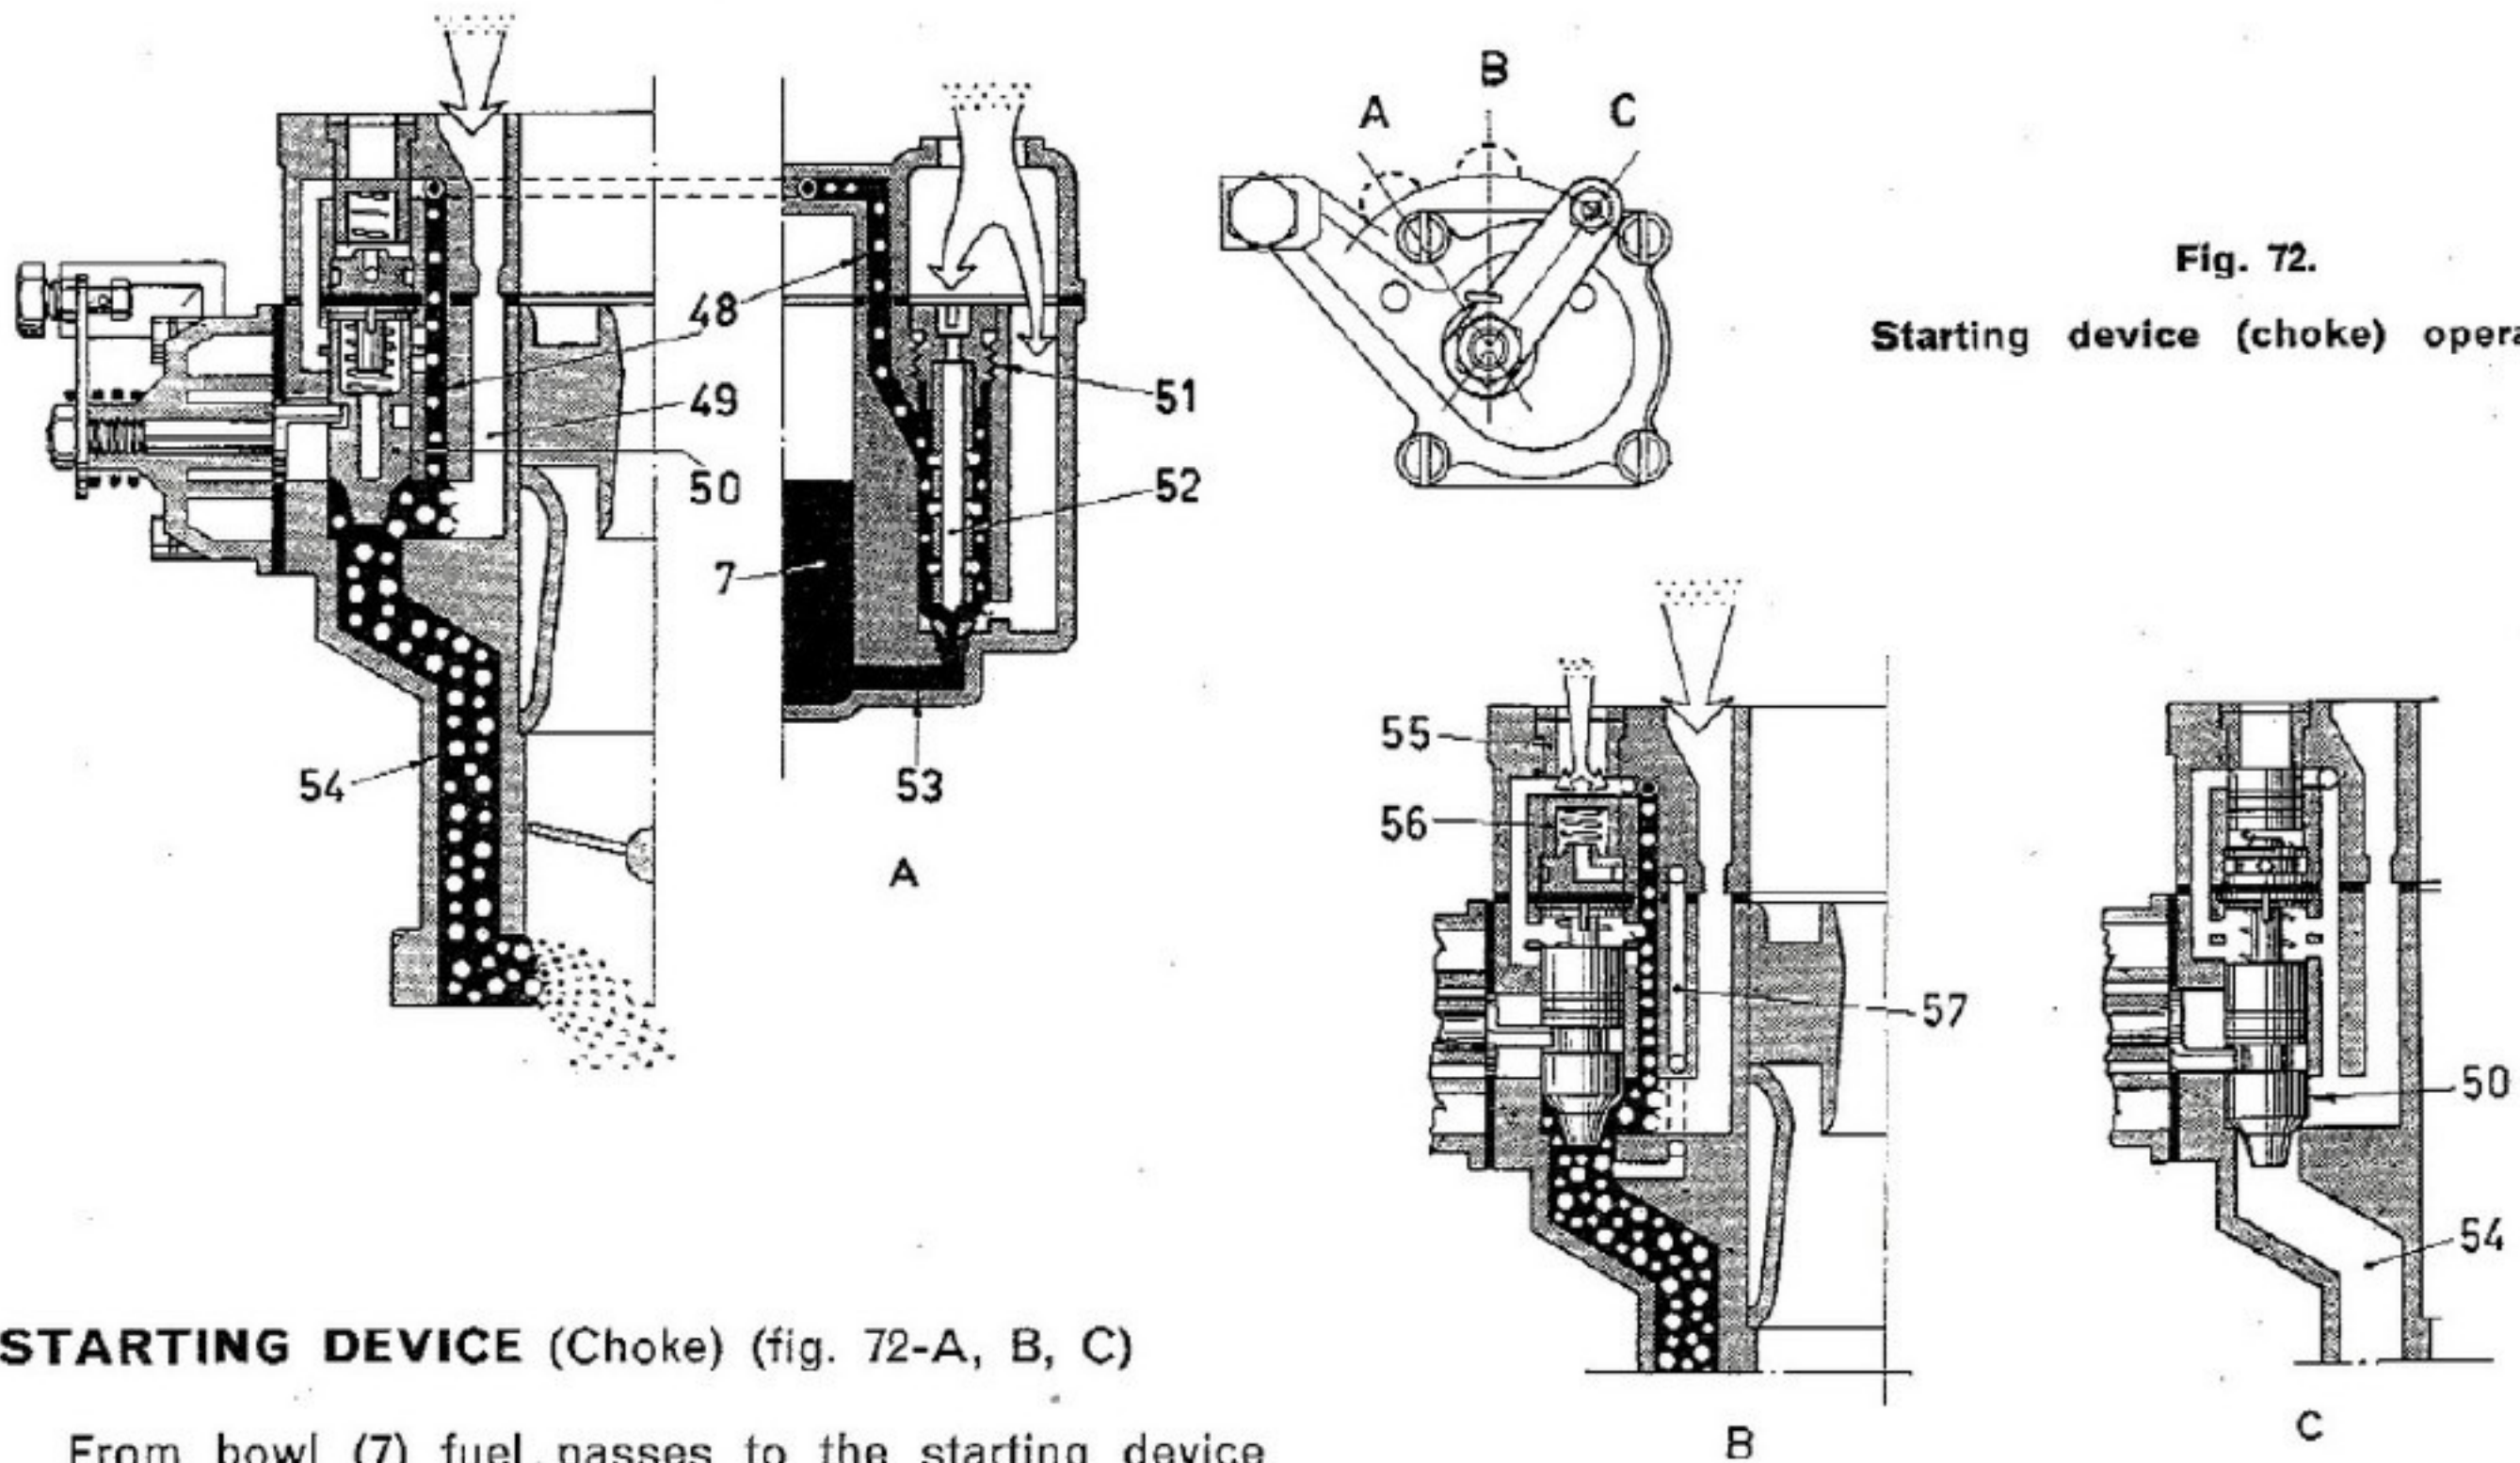

Fig. 72.
STARTING DEVICE (Choke) (fig. 72-A, B, C)
From bowl (7) fuel passes to the starting device through duct (53) and starting jet (52). Emulsified with the air coming from the carburetor air intake and calibrated by the air corrector jet (51), it reaches the chamber of plunger (50) — through duct (48) — where it is mixed with air from duct (49): this mixture is then aspirated through duct (54) so permitting ready starting of the engine - Diagram A, fig. 72.
downstream of the throttles increases; through duct (57, fig. 72) this vacuum causes the opening of valve (56). The air sucked in through bush orifice (55) then leans the mixture in duct (48) coming from starting jet (52).
On starting, the device distributes a slightly rich mixture in sufficient quantity to provide normal cold engine running - Diagram B, fig. 72.
Cold starts: insert the device fully (position A, fig. 72): once engine is running properly, set progressively back to rest position.
With the starting device disconnected, plunger (50) blanks duct (54) thus stopping the flow of mixture - Diagram C, fig. 72.
Half-warm starts. A partial insertion of the device will suffice (position B, fig. 72).
ture to ensure smooth engine operation (position B, fig. 72).
- **Normal operation.** As soon as the engine reaches a temperature sufficient for normal operation, cut out the starting device (position C, fig. 72).